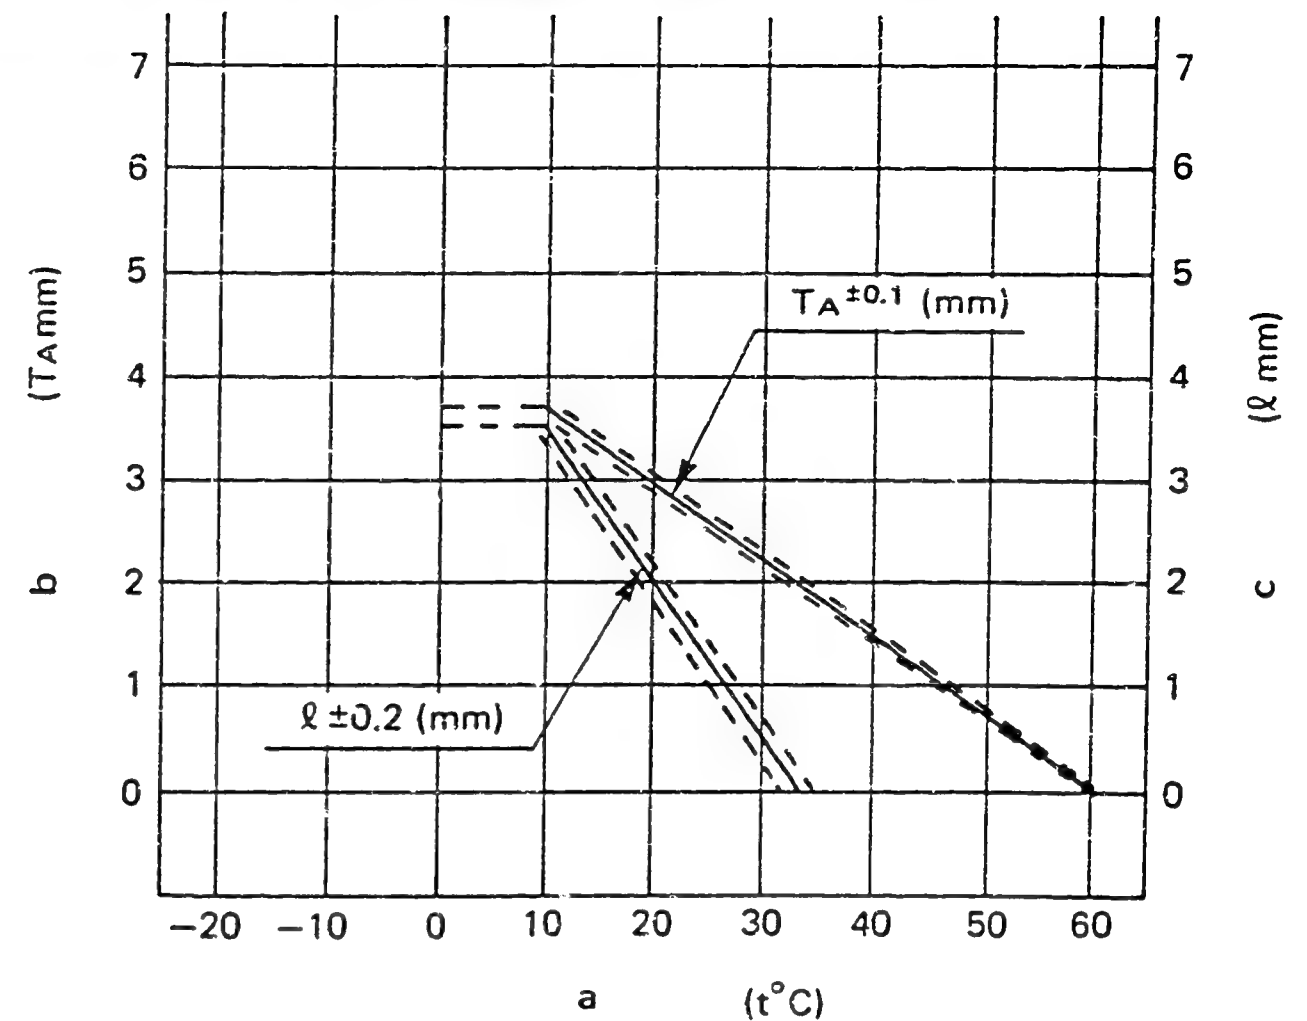

Fig. 21
- 1) Using the graph (Fig. 21), determine the timer stroke according to the the atmospheric temperature at the time of adjustment.
- 2) From Fig. 21 determine the dimension of the gap between the idling lever pin and the control lever according to the atmospheric temperature at the time of adjustment.